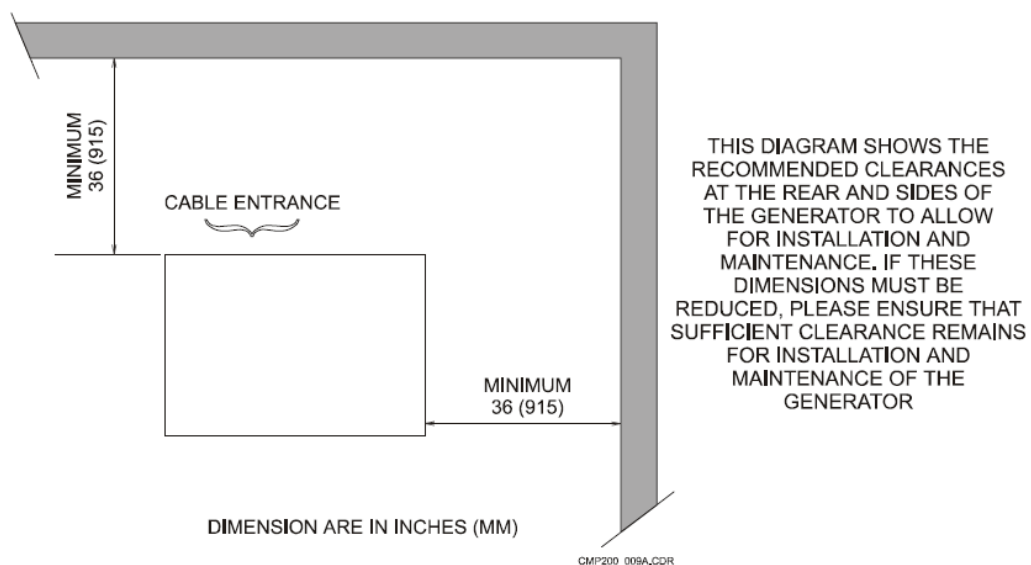

Figure 1-1 Generator Recommended Clearance
- Easy front and side access for service and installation, and sufficient clearance at the rear for room interface cables for generator. Figure 1-1 shows recommended clearances for generator;